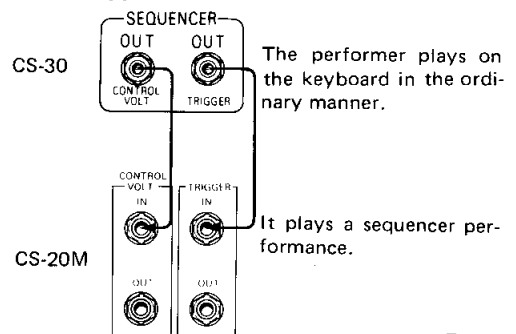

Fig. 20
- Fig. 20 shows an example in which the sequencer data of the CS-30 has been applied to the CS-20M.